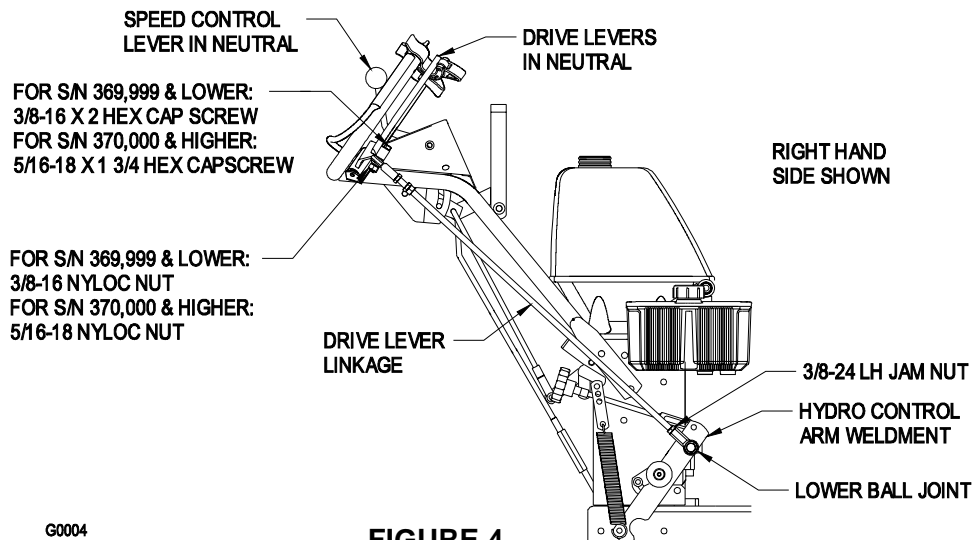

FIGURE 4
- 3.13 Install drive lever linkages (See Figure 4). Position the speed control lever in neutral. Position the drive levers in neutral and engage the neutral lock latches (See Figure 6 (b)). Drive lever linkages are shipped with upper ball joints installed. Thread a 3/8-24 LH jam nut, from the bolt bag, onto the lower end of each drive lever linkage. Identify the lower ball joints installed on hydro control arm weldments. Thread lower end of each drive lever linkage into the lower ball joint until hole in upper ball joint aligns with hole in drive lever.